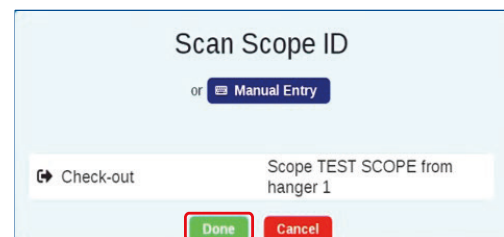
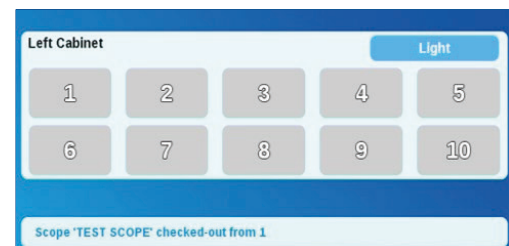

Fig. 77
Fig. 78
4. CONFIRM SCOPE CHECK-OUT: Press the ‘Done’ button (Fig. 77) to complete the Checking-Out process and go to back to the Main Page. Hanger numbers that were checked out will now be gray (Fig. 78).